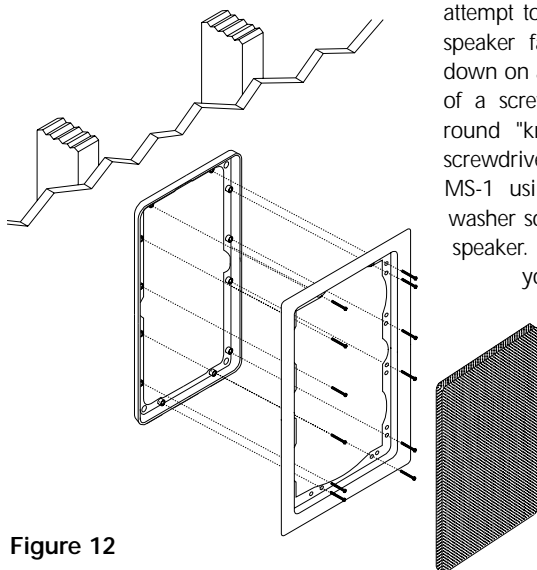

Figure 12
7. Attach the frame to the bracket by screwing the frame to the bracket using the supplied screws. Do not overtighten the screws, this will distort the frame and the grilles will not fit (this is not permanent, just loosen the screws and the grille will pop in). The screws should pull the frame and bracket together (sandwiching the drywall) so that the frame is absolutely flush with the wall surface. There should be no gaps between the wall and the frame (See Figure 12).